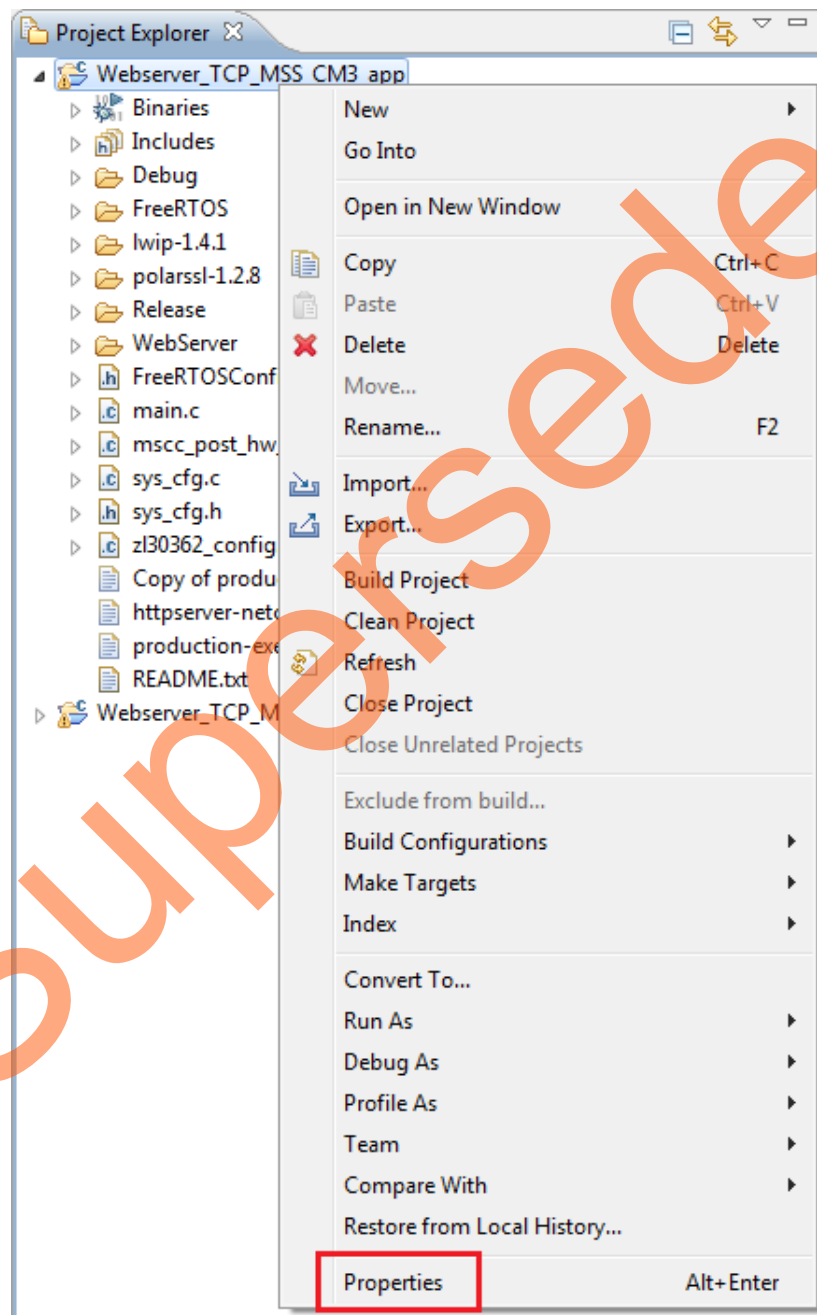

Figure 1 • Project Explorer Window of SoftConsole Project
1. To run the design in Static IP mode, right-click the **Webserver_TCP_MSS_CM3_app** in the **Project Explorer** window of SoftConsole project and select **Properties** as shown in Figure 1.